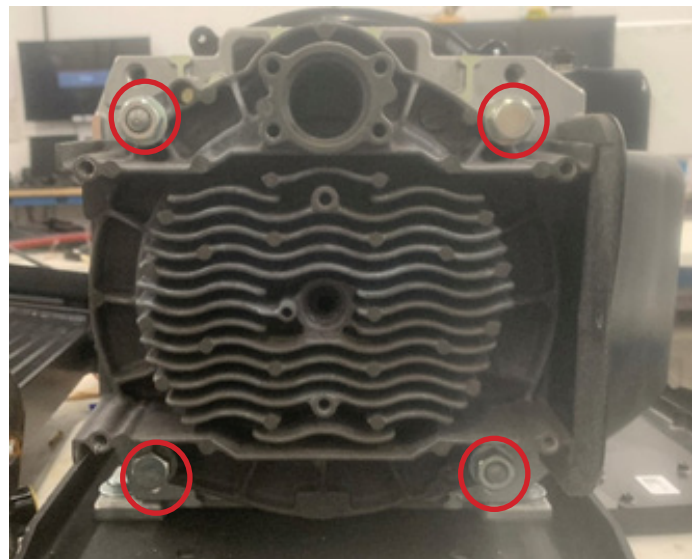

Figure 29
2. Remove the 2 nuts and 2 bolts in Figure 29, and remove the fixed scroll and expose the orbital scroll.
6. Torque the FS fasteners (see Figure 29) in two stages:
13. Torque the FS fasteners (see Figure 29) in two stages: